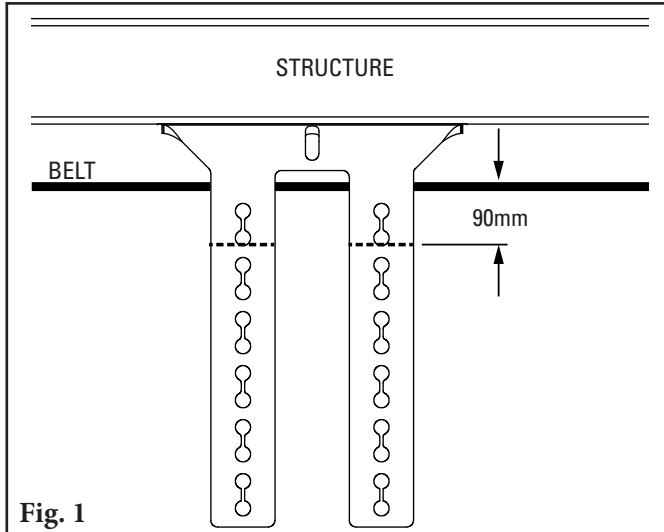

Fig. 1
- a. For push-up installation, use a straightedge to push up against the belt to remove the slack and make a mark on the bracket for the bottom of the belt. From that mark, measure down 90mm and make a second mark (Fig. 1). The second mark is where the centre of the pole should line up in Step 6.